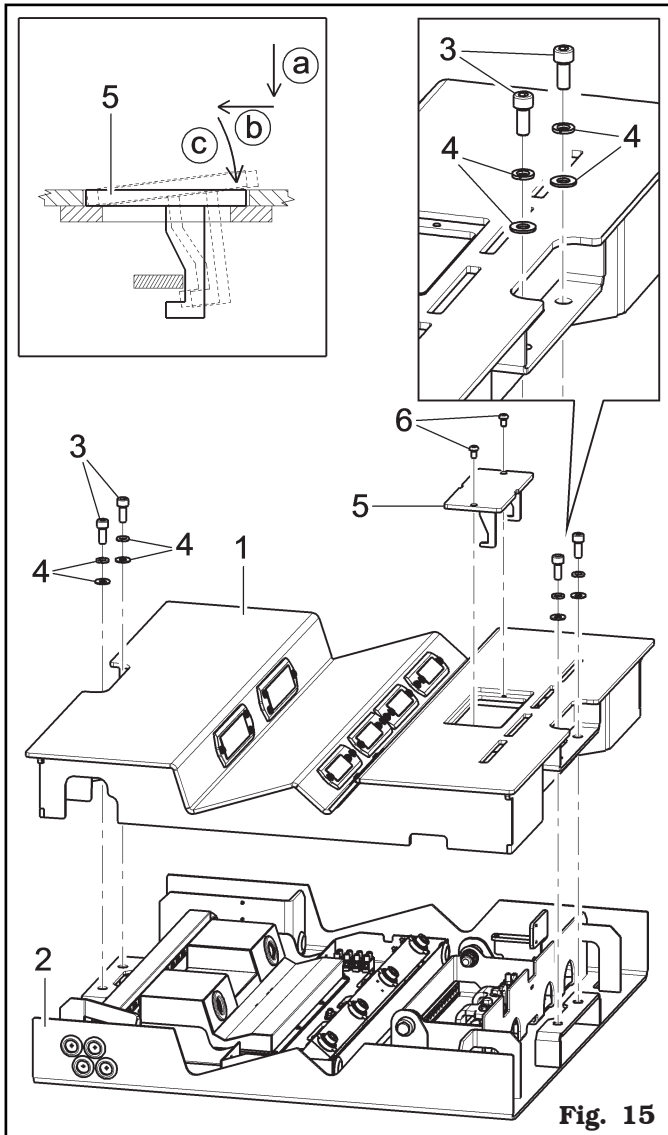

Fig. 15
1. Place the cover (**Fig. 15 ref. 1**) on the base (**Fig. 15 ref. 2**).
2. Fix the cover (**Fig. 15 ref. 1**) using the supplied screws (**Fig. 15 ref. 3**) and washers (**Fig. 15 ref. 4**).
3. Connect the pneumatic pipe (**ref. 1** of "Table D" of "Functional diagrams", see Chapt. 23) and the extension cable (**ref. 2** of "Table D" of "Functional diagrams", see Chapt. 23) to the cover (**Fig. 15 ref. 1**).
4. Mount the cap (**Fig. 15 ref. 5**), as indicated in the lens (phase a, b, c), and fix it to the cover using the supplied screws (**Fig. 15 ref. 6**).